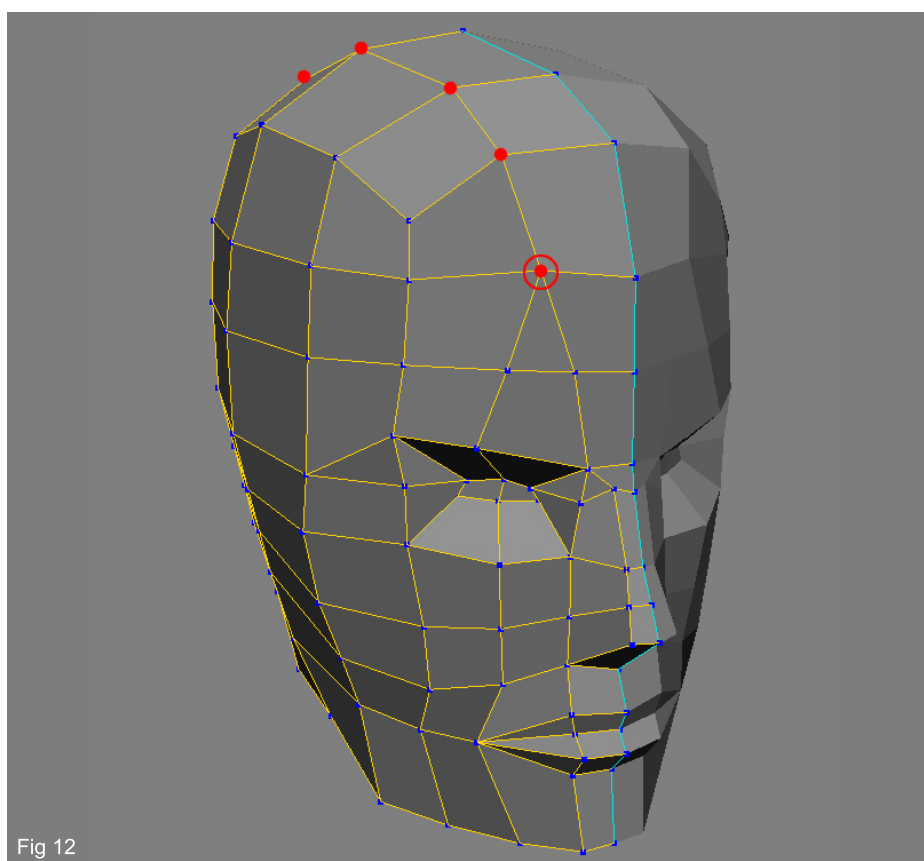

Fig 12
12. Since this is a real-time low-poly character, we have to keep an eye on the number of polygons we use while modeling. All the unnecessary detail (vertices, edges, polygons) should be cleaned up and erased. Use the Weld Points to Target tool to collapse together all the vertices marked in red in Fig12. Go all the way around this edge loop and weld the vertices together. After every Weld operation, check if the head maintains its rounded shape, and if need be move some vertices around to reshape the mesh: